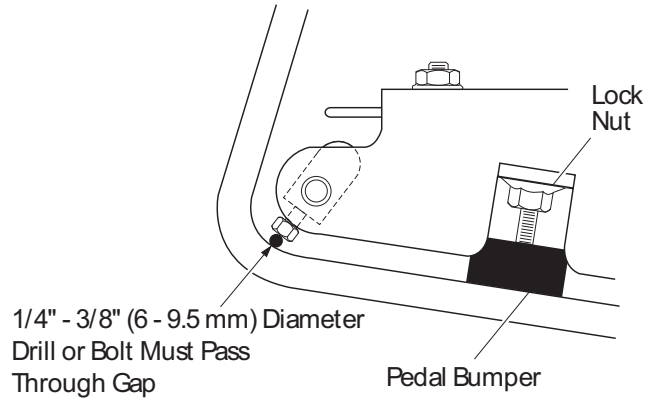

Fig. 6 Brake Pedal Bumper Inspection
- Be sure that the brake pedal is contacting the pedal return bumper when released, that the bumper is in good condition, and that a 1/4 - 3/8" (6 - 9.5 mm) gap exists between the brake pedal arm and the setscrew heads of the kick-off cam (Ref Fig. 6).